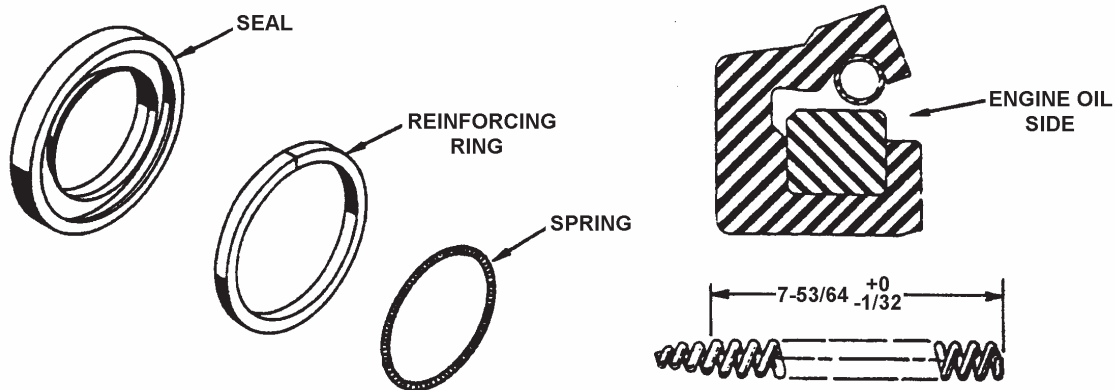

Figure 10-44. Crankshaft Nose Oil Seal Parts
7. Remove the crankshaft nose oil seal, reinforcing ring (if used), and spring as shown in Figure 10-44). Gentle force may be required to remove the nose oil seal parts from the counterbore.
4. Verify the seal spring length is 7.80" to 7.83" as illustrated in Figure 10-44. If the spring length is not within this tolerance, replace it.